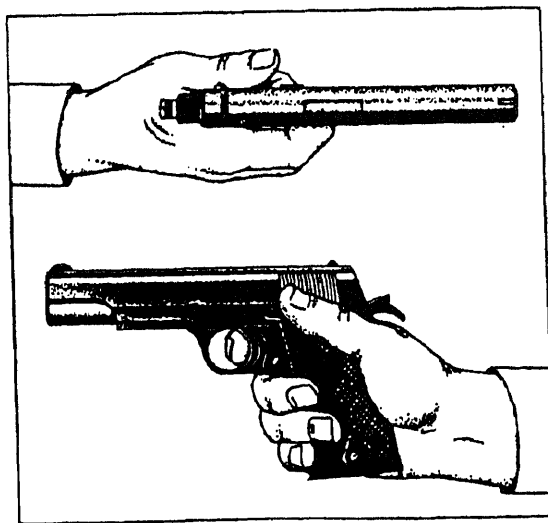

Figure 18-19.—Side and top views of correct grasp of pistol.
**Grip.**—Use your left hand to assist in settling the pistol well back into the fork of your hand; that is, the grip safety should be forced down and back into the V formed between the thumb and forefinger of your right hand. Your hand should be as high on the butt as you can place it without squeezing your flesh between the tang of the hammer and the grip safety (fig. 18-19). The barrel should be aligned with your forearm so that when you extend the arm, the barrel will naturally point to the target. Keep the thumb parallel to or slightly higher than the forefinger. Grasp the pistol firmly, but not so hard that you cause the muscles to tremble. When extending the pistol, keep your elbow locked and your wrist firm.